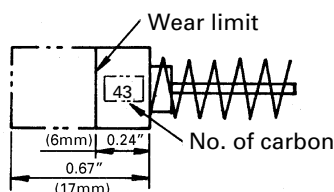

Fig. 17
2. Inspecting the carbon brushes (Fig. 17)
NOTE: Use HITACHI carbon brush No. 43 indicated in Fig. 17.